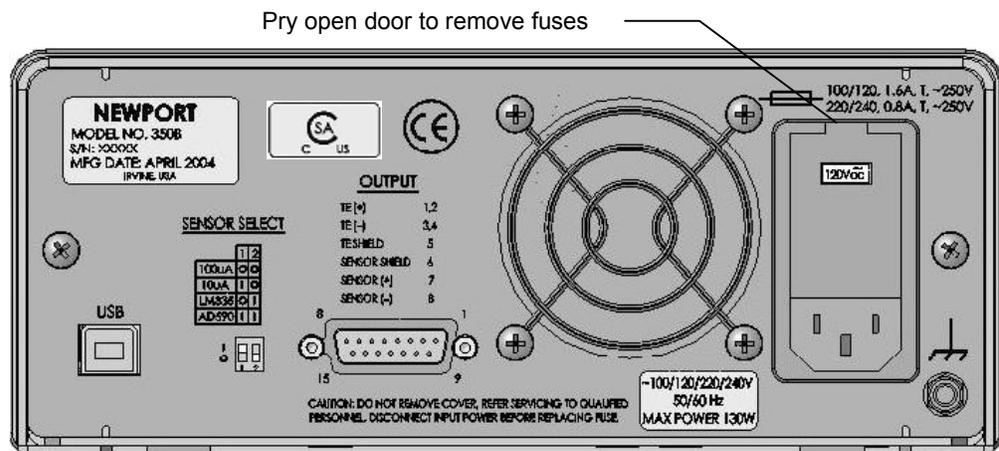

Figure 22 Fuse Replacement
2. Pry open tab at top of power receptacle and open panel to access fuses. (See Figure22)